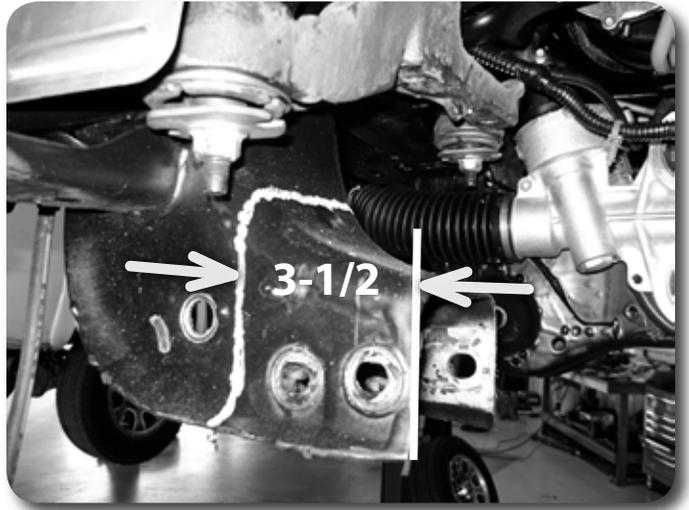

Figure 14 - Shown with differential removed for clarity
26. Measure from the inside of the driver's side control arm pocket out 3-1/2" and mark. Repeat this measurement on the opposite side of the pocket. Make vertical cut lines at the 3-1/2" mark up both front and back faces of the pocket **Figure 14**.